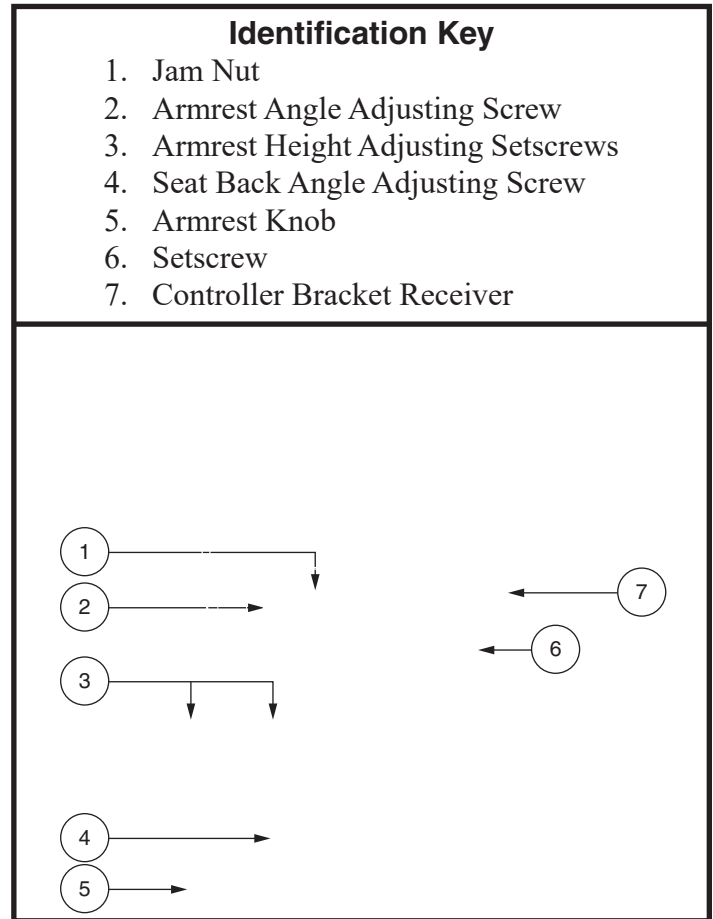

Figure 15. Armrest and Seatback Adjustments
NOTE: The most common configuration of the seat adjustment hardware is shown in figure 15. Your product may be equipped with a different configuration. All configurations operate in a similar manner.
1. Remove the adjusting screws from each seat hinge. See figure 15.
1. Locate the adjustment hardware on each side of the armrest receiver bracket. See figure 15.
2. Loosen the jam nut. See figure 15.
1. Loosen the setscrews on the armrest. **See figure 15.**
2. Loosen the setscrew on the controller bracket. **See figure 15.**
5. Loosen the setscrew on the underside of each armrest. **See figure 15.**